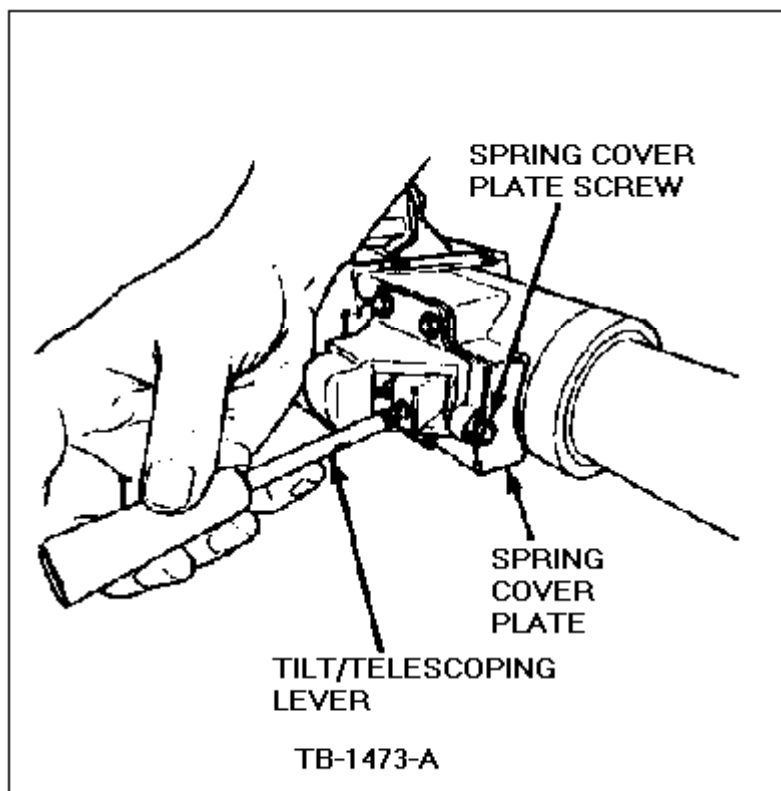

Figure 6 - Article 90-5-10
7. Remove the spring cover plate using a 5/16 inch hex socket, Figure 6.